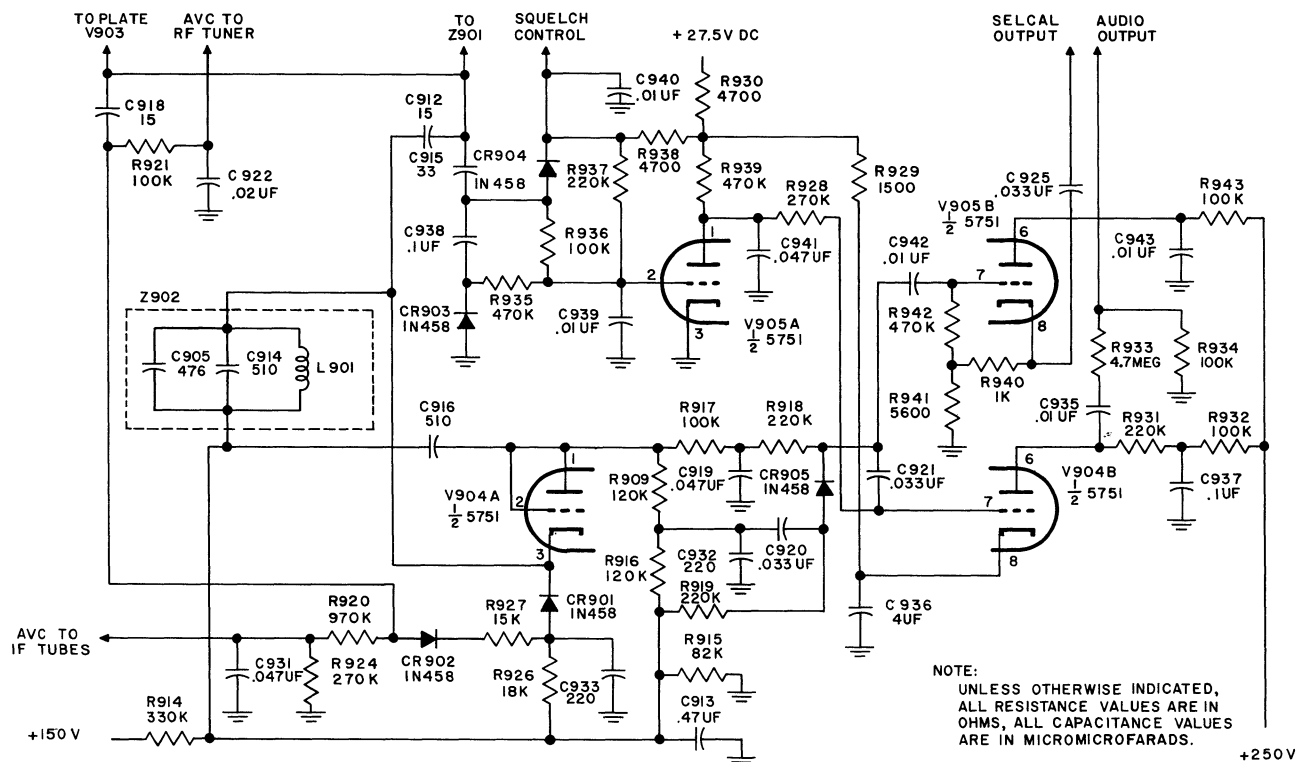

Figure 4-33. 250 Kc I-F Amplifier with Squelch and Selcal Detector AVC, Squelch and Selcal Circuit, Simplified Schematic Diagram
4.9.7.2 DETECTOR-AVC CIRCUIT. Refer to figure 4-33. One half of duotriode V904 is used as the detector. The signal voltage is coupled through C916 and applied to the cathode of V904A. The rectified voltage appears across the series resistors R909 and R916. A series-type noise limiter is employed by use of CR905. One half of duotriode V904B is connected in series with the first audio amplifier stage (V1301A) in the a-f amplifier. Normal audio signals are coupled from the detector output to V1301A control grid. Sharp, high-amplitude noise impulses are limited in amplitude to a nominal 60 per cent.
4.9.7.3 SQUELCH CIRCUIT. Refer to figure 4-33. A positive d-c voltage is applied to the grid of the squelch control tube, V905A, through voltage dividing resistors R930, R937, R938 and a Squelch Control located on the control panel. Under no-signal conditions this causes the tube to conduct, increasing the bias on the first audio amplifier stage V904B to cut off, thereby disabling the audio output to the audio amplifier module. When a signal is present, r-f voltage is coupled to the squelch control circuit through coupling capacitor C915. The rectifying action of diode CR904 applies a negative d-c voltage to the squelch control grid, V905A, through resistor R936. When the magnitude of this voltage becomes great
4.9.7.4 SELCAL CIRCUIT. Refer to figure 4-33. The selcal output is obtained by coupling to the noise limiter diode through coupling capacitor C942. This signal is connected to the high-impedance grid circuit of a cathode follower stage, V905B, to obtain an impedance transformation to a lower impedance. Output is taken from the cathode through coupling capacitor C925. Output level is maintained at 0.25-volt minimum. Since the selcal circuit is coupled to the noise limiter stage, output is maintained at full sensitivity regardless of squelch setting.